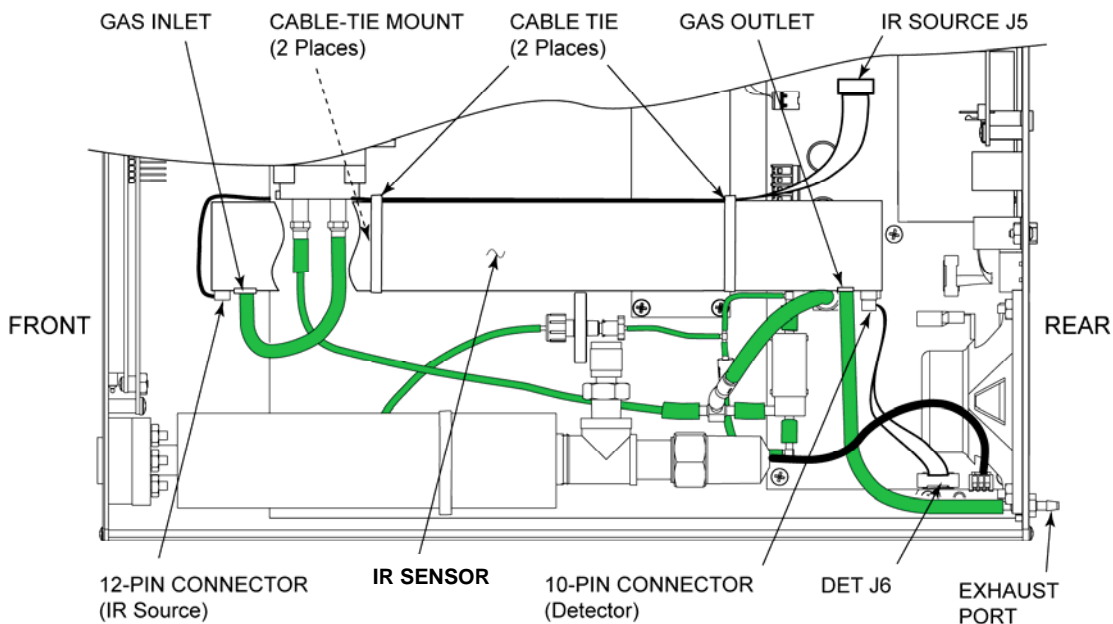

Figure 2.
- Carefully remove tubing and electrical connectors from old IR sensor. See Figure 2.
- Place new IR sensor inside chassis, positioning its 10-pin electrical connector toward the rear of the instrument. Rotate the sensor so that its gas inlet and outlet fittings and its electrical connectors are positioned as shown in Figure 2.